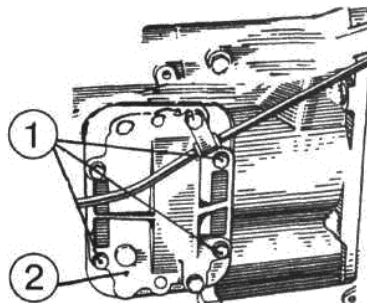

Figure 4.55
a) unscrew bolts 1 (Figure 4.55) and dismount left side cover 2;